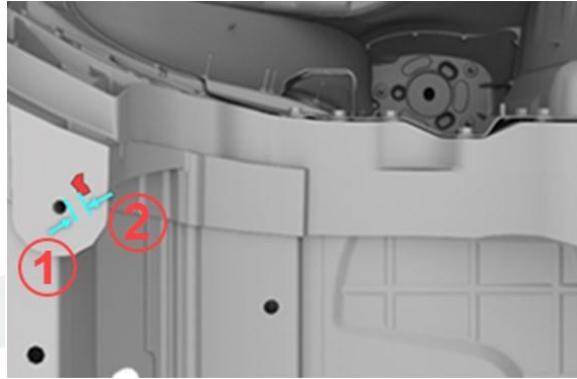

Figure 4
- b. Measure the distance between the edge of the subframe mounting bolt hole closest to the damaged area (① in Figure 4) and the edge of the damaged area (② in Figure 4).